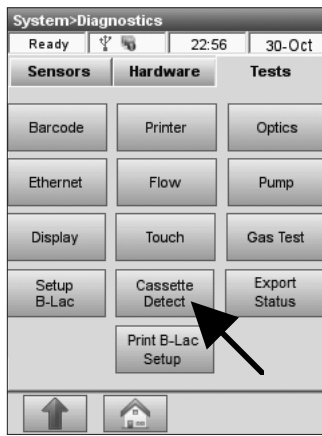

Fig. 8-42 Cassette Detect
- Press **<Cassette Detect>** to start the calibration (Fig. 8-42).